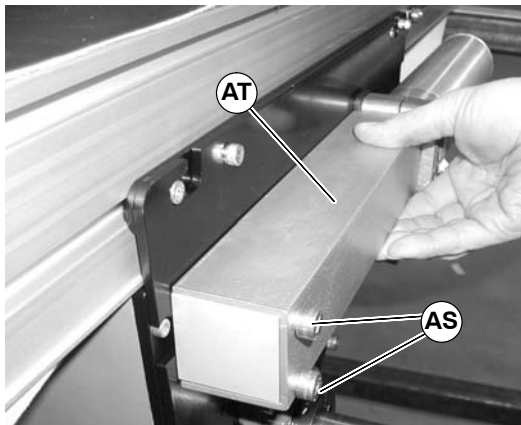

Figure 61
2. Remove screws (AS of Figure 61) and tensioning guards (AT) from both sides of center drive.